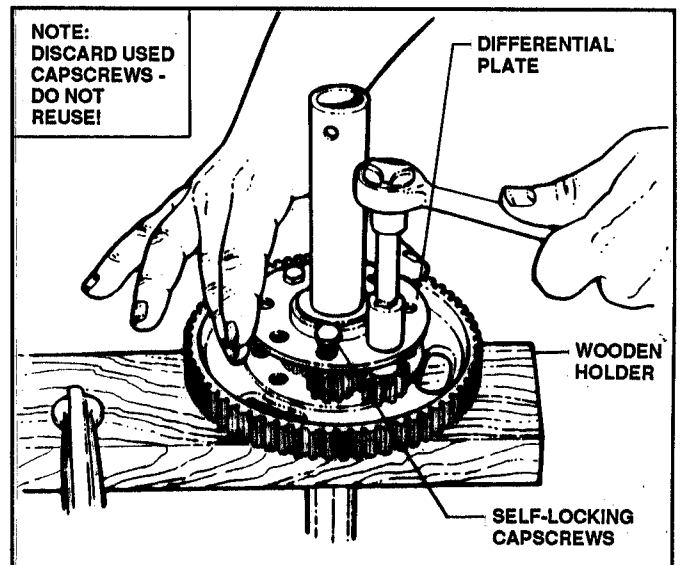

FIGURE 4.24
23. Remove the self-locking capscrews from Differential Plate and discard - they cannot be reused. Replace with new #1-2333 capscrews during reassembly. See Figure 4.24.